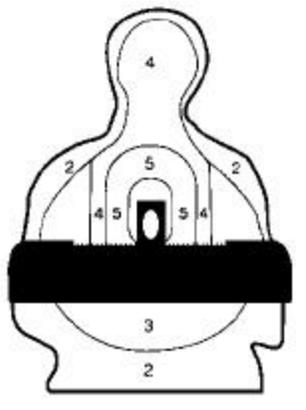

Figure 2
- e. Sight Picture Fixed Sights. Once you have acquired your sight alignment, you must develop the sight picture. Sight picture is placing the proper sight alignment in the proper place on the target. The human eye cannot focus on two things at once. Therefore, the shooter cannot focus on the sights and the target at the same time. The shooter's eye focus must remain on the front sight at all times. To obtain the proper sight picture, the shooter places the proper sight alignment on the target so that the front blade covers the center mass of the target. (See figure 2.)